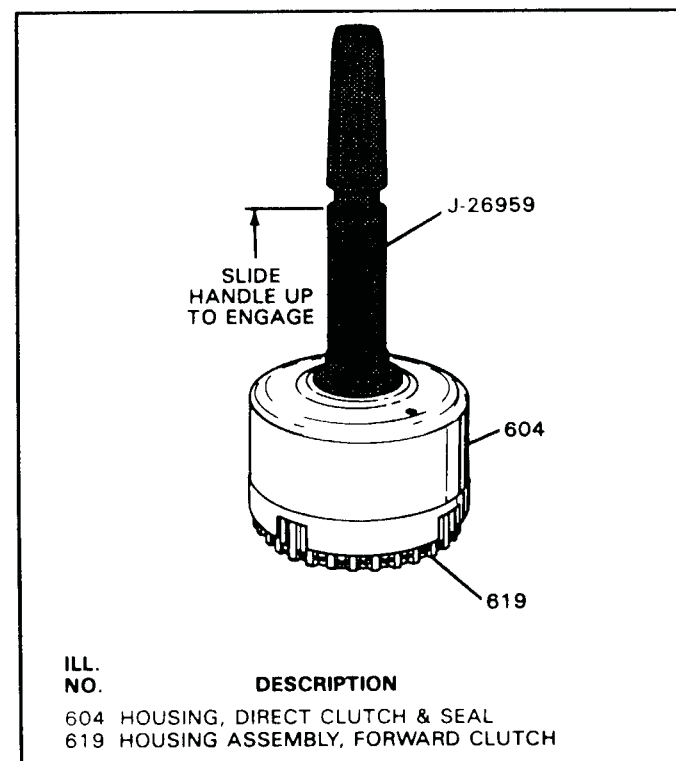

Figure 93
40. Stand the forward and direct clutch housing up as shown in Figure 93.
41. There is an installation tool available to install the assemblies, as shown in Figure 93, that will ease the installation of these drums.